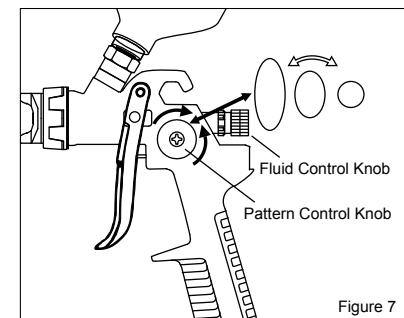

Figure 7
**NOTE:** The pattern control knob can be adjusted either clockwise or counterclockwise to get the required pattern shape and size. To get a round pattern shape, turn the pattern control knob counterclockwise to the upmost. To get a fan pattern shape, gradually turn the pattern control knob clockwise. (See Figure 7)